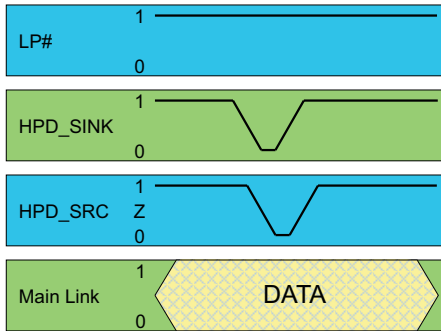
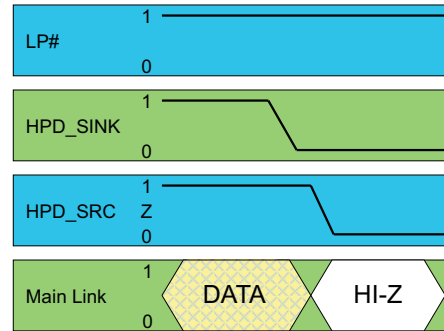

Figure 18.
Figure 19.
- In this case the HPD\_SINK input is initially HIGH. The HPD\_SRC output logic state will follow the state of the HPD\_SINK input (when HPD\_INV = L). If the HPD\_SINK input pulses LOW, as may be the case if the Sink device is requesting an interrupt, the HPD\_SRC output to the source will also pulse Low for the same duration of time with a slight delay (see Figure 18). The delay of this signal through the SN75DP120 is specified as  $t_{PD(HPD)}$ . If the duration of the LOW pulse exceeds  $t_{T(HPD)}$  the device will assume that an unplug event has occurred and enter the low power state (see Figure 19). Once the HPD\_SINK input goes high again the device will return to the active state as indicated in Figure 17.